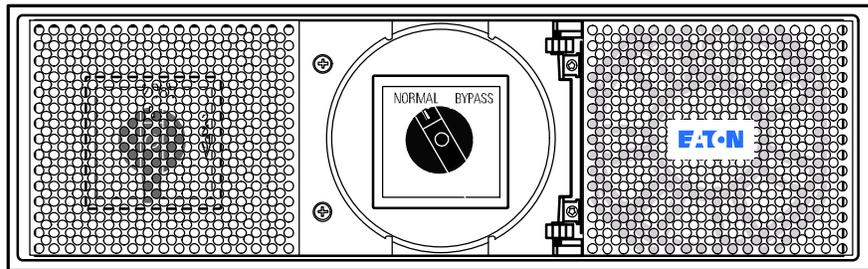

Figure 35. Setting the Bypass Switch to UPS (Normal)
7. Turn the bypass switch on the 9PX PPDM to the UPS (normal) position (see Figure 35).